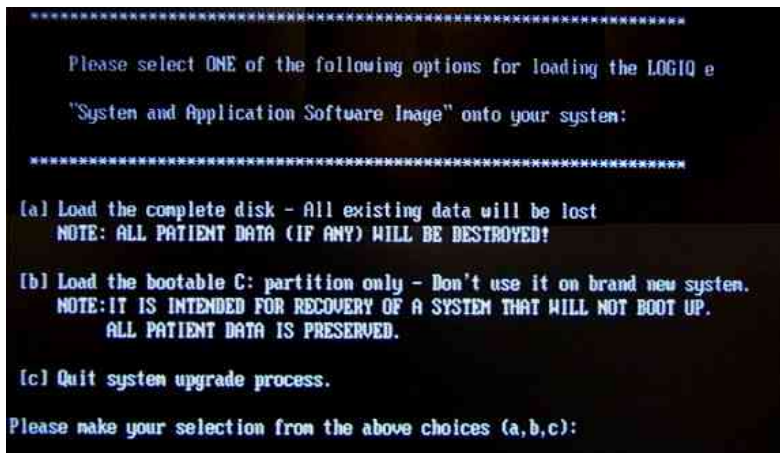

Figure 8-4 Selection for loading the system
- 6.) Select one of the options for loading the system. Select choice [a] to load the complete disk. Refer to Figure 8-4 on page 8-5.